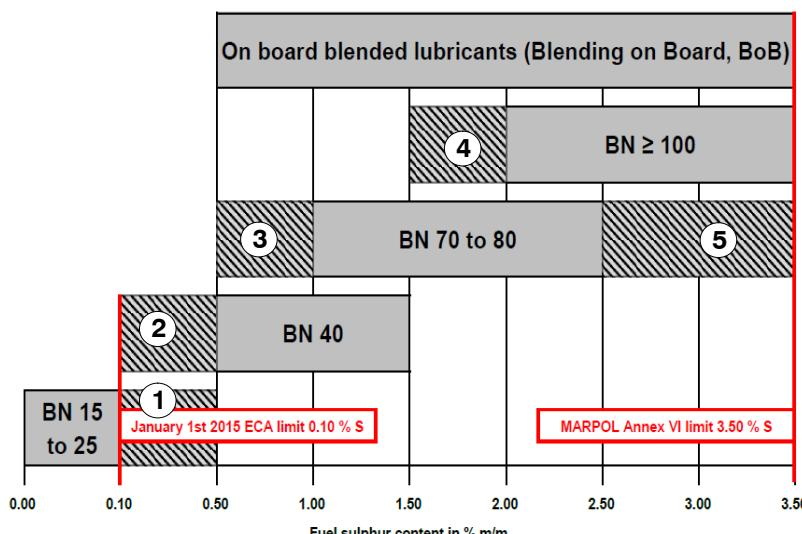

Fig. 1: Relation between Fuel Sulphur Content and Cylinder Lubricating Oil BN
Fig. 1 shows recommendations of applicable cylinder lubricating oils related to the sulphur content of the used fuel.
If you do not use an on-board monitoring programme to monitor the piston underside drain oil, use the data given in Fig. 1 to choose an applicable cylinder lubricating oil. For data about the applicable feed rates, see 7218-1 Cylinder Lubrication and 7218-3 Feed Rate – Adjustment.
- Range 1 (see Fig. 1): When the fuel sulphur content is more than 0.1% m/m and less than 0.5% m/m during operation with BN 15 to BN 25 cylinder lubricating oil, you must do an analysis of the piston underside drain oil from the on-board monitoring system. You must obey the data that follows:
- Range 2 (see Fig. 1): When the fuel sulphur content is more than 0.1% m/m and less than 0.5% m/m during operation with BN 40 cylinder lubricating oil, adjust the cylinder lubricating oil feed rate to the guide feed rate (refer to 7218-1 Cylinder Lubrication). This prevents too much piston crown and top land deposits.
- Range 3 (see Fig. 1): When the fuel sulphur content is more than 0.5% m/m and less than 1.0% m/m during operation with BN 70 to BN 80 cylinder lubricating oil, adjust the cylinder lubricating oil feed rate to the guide feed rate (see 7218-1 Cylinder Lubrication). This prevents too much piston crown and top land deposits.
- Range 4 (see Fig. 1): When the fuel sulphur content is more than 1.5% m/m and less than 2.0% m/m during operation with BN 100 cylinder lubricating oil, adjust the cylinder lubricating oil feed rate to the guide feed rate (see 7218-1 Cylinder Lubrication). This prevents excessive piston crown and top land deposits.
- Range 5 (see Fig. 1): When the fuel sulphur content is more than 2.5% m/m and less than 3.5% m/m during operation with BN 70 to BN 80 cylinder lubricating oil, operation is permitted only, when you do an analysis of the piston underside drain oil from the on-board monitoring system. You must obey the data that follows: